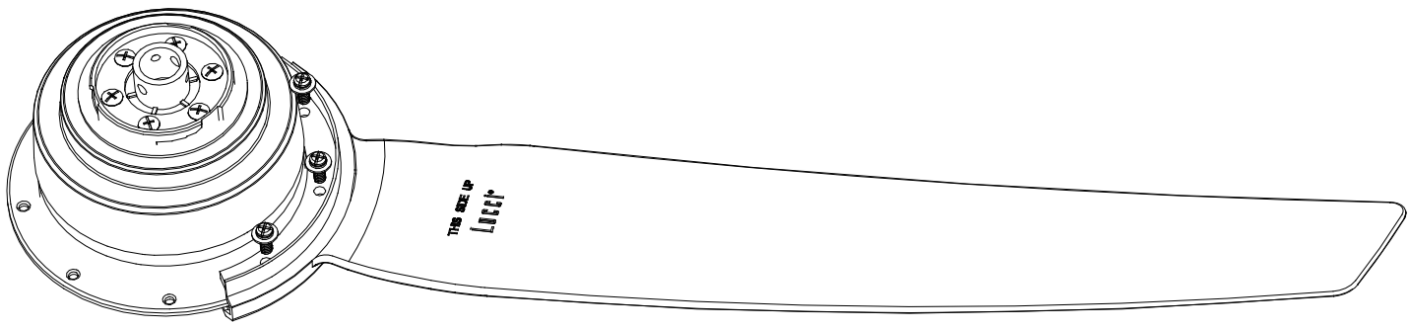

Fig. 4
INSTALLATION OF BLADE (Fig. 4)
1. Mount the fan blade onto the fan assembly using three blade screws with lockwashers (supplied in fan parts bag) (Fig.4).